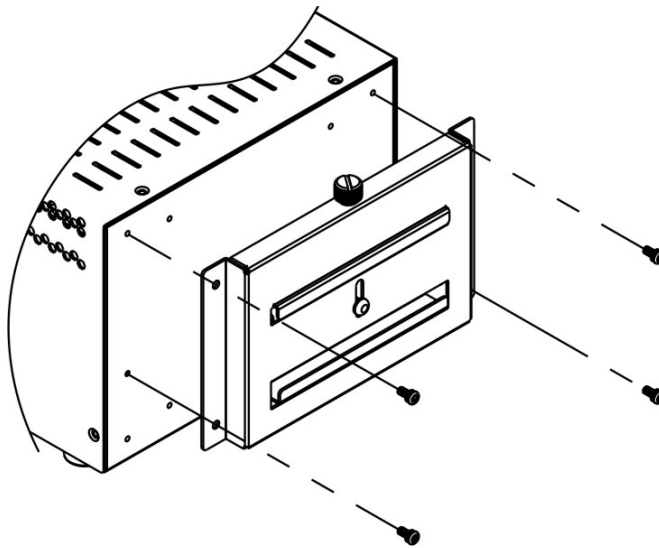

Figure 3-19: DIN Rail Mounting Bracket
Step 1: Attach the DIN rail mounting bracket to the bottom panel of the embedded system. Secure the bracket to the embedded system with the supplied retention screws (**Figure 3-19**).